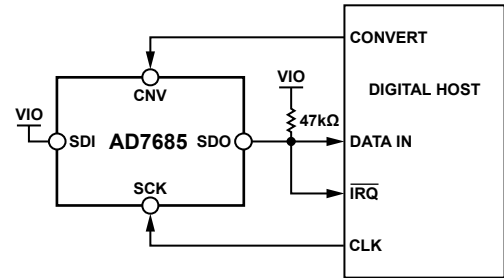
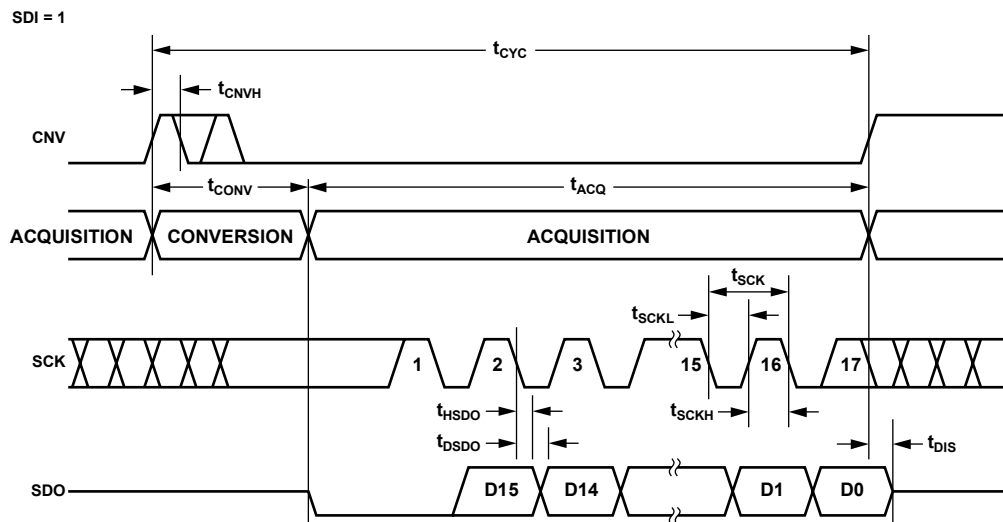
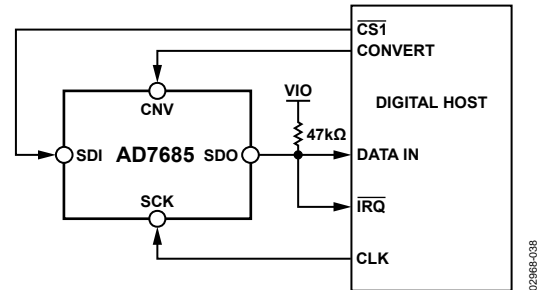
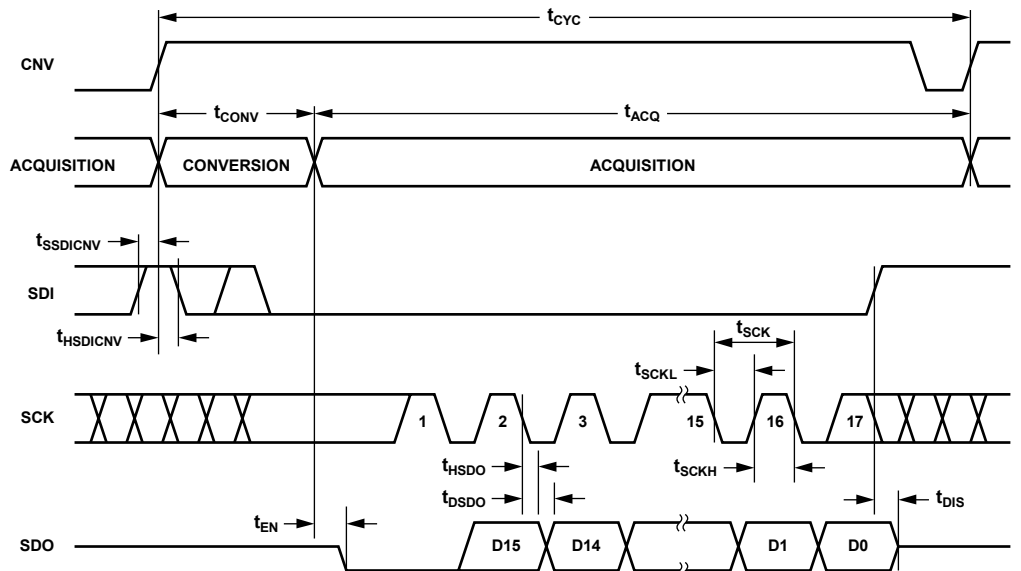

Figure 36. $\overline{\text{CS}}$ Mode 3-Wire with BUSY Indicator Connection Diagram (SDI High)
Figure 37. $\overline{\text{CS}}$ Mode 3-Wire with BUSY Indicator Serial Interface Timing (SDI High)
Figure 40. $\overline{\text{CS}}$ Mode 4-Wire with BUSY Indicator Connection Diagram
Figure 41. $\overline{\text{CS}}$ Mode 4-Wire with BUSY Indicator Serial Interface Timing
- In the $\overline{\text{CS}}$ mode, if $\overline{\text{CNV}}$ or SDI is low when the ADC conversion ends (see Figure 37 and Figure 41).
The connection diagram is shown in Figure 36, and the corresponding timing is given in Figure 37.
The connection diagram is shown in Figure 40, and the corresponding timing is given in Figure 41.